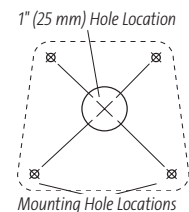
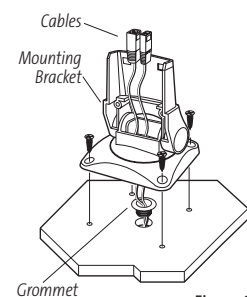

Figure 5
Figure 6
- 1a. If the cables must pass through a hole directly beneath the mounting bracket, mark and drill an additional 1" (25 mm) hole centered between the four mounting holes (Figure 5). Route the cables through the grommet, then press the grommet in place around the cables and into the 1"(25 mm) hole. Pass the cables out of the top of the mounting bracket (Figure 6).